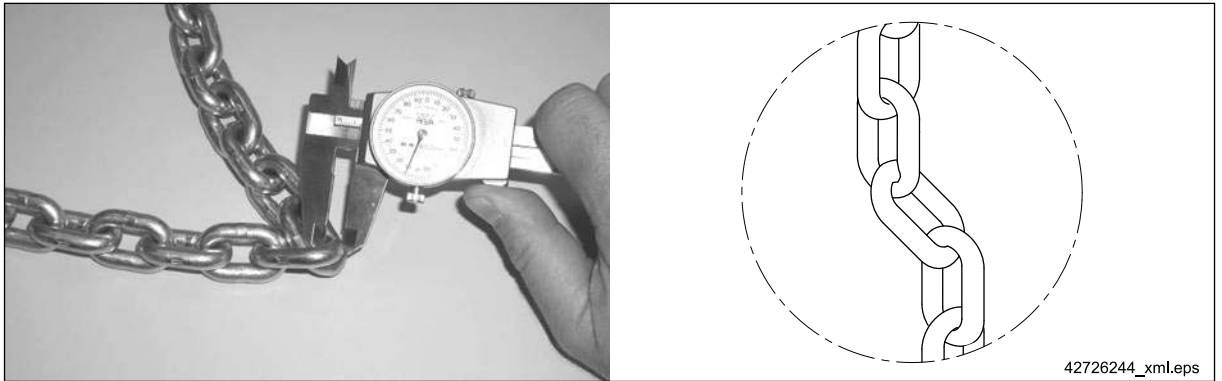

Fig. 44
- wear of a single chain link ⇒ Fig. 44, Page 75;